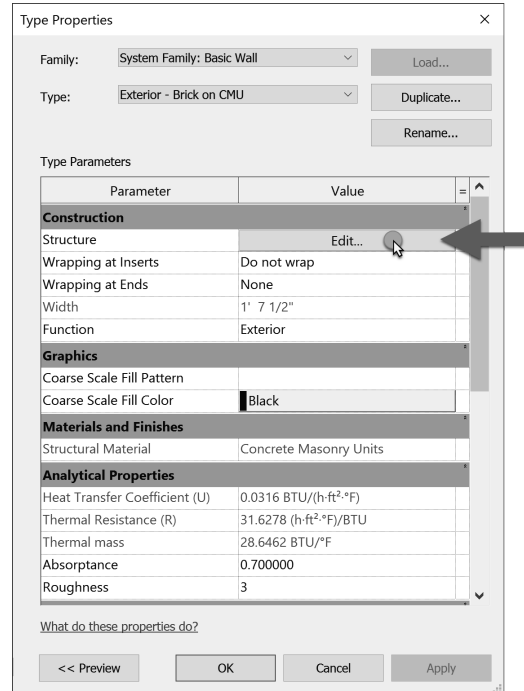

FIGURE 3-2.4 Type Properties
6. You should be in the *Type Properties* dialog box. Click the **Edit** next to the *Structure* parameter (Figure 3-2.4).